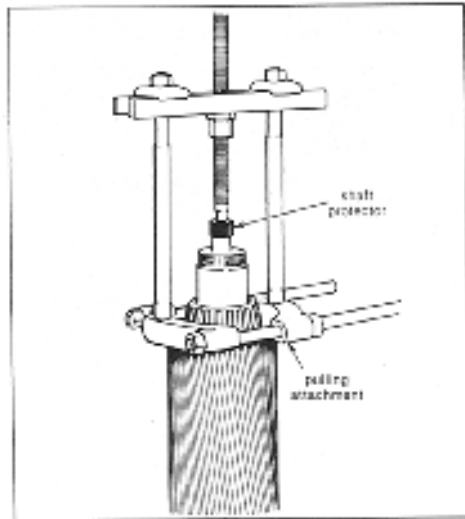

Fig. 30. Pulling Bearing Cone from Pinion Shaft.
1. Inspect pinion bearings for roughness of rotation, corrosion, scoring, scratches, burrs, cracks, pitted or chipped races, and wear of rollers. If one of these conditions is found replace the entire bearing set (3 pieces) see fig. 30. Clean bearings thoroughly with solvent. CAUTION: Because of close tolerance between shoulder of gear and bearing cone, the use of a puller will destroy the bearing.